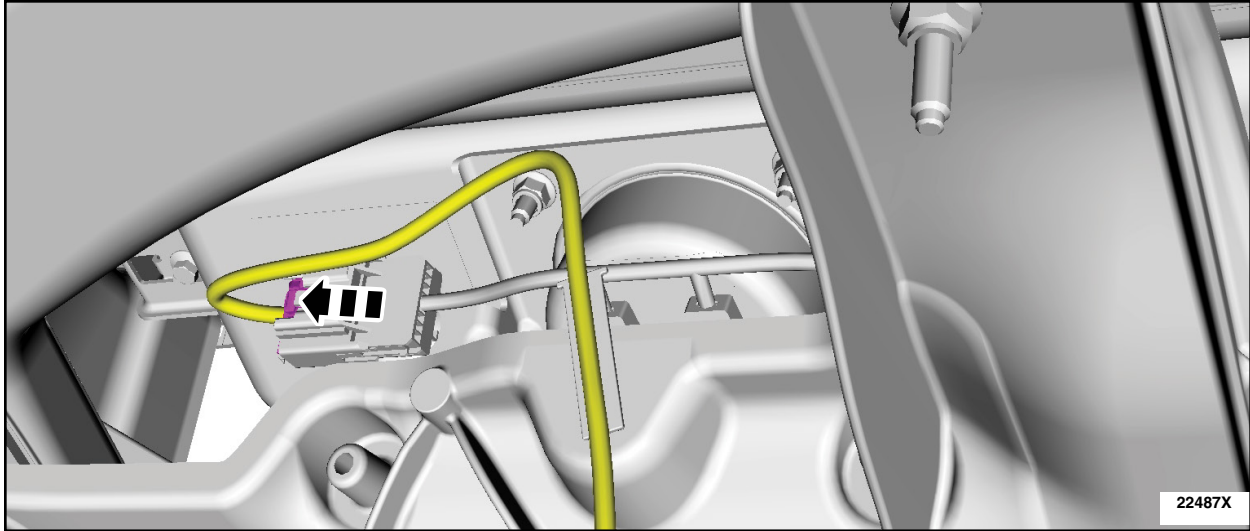

FIGURE 22
23. Disconnect the passenger airbag electrical connector. See Figure 22.